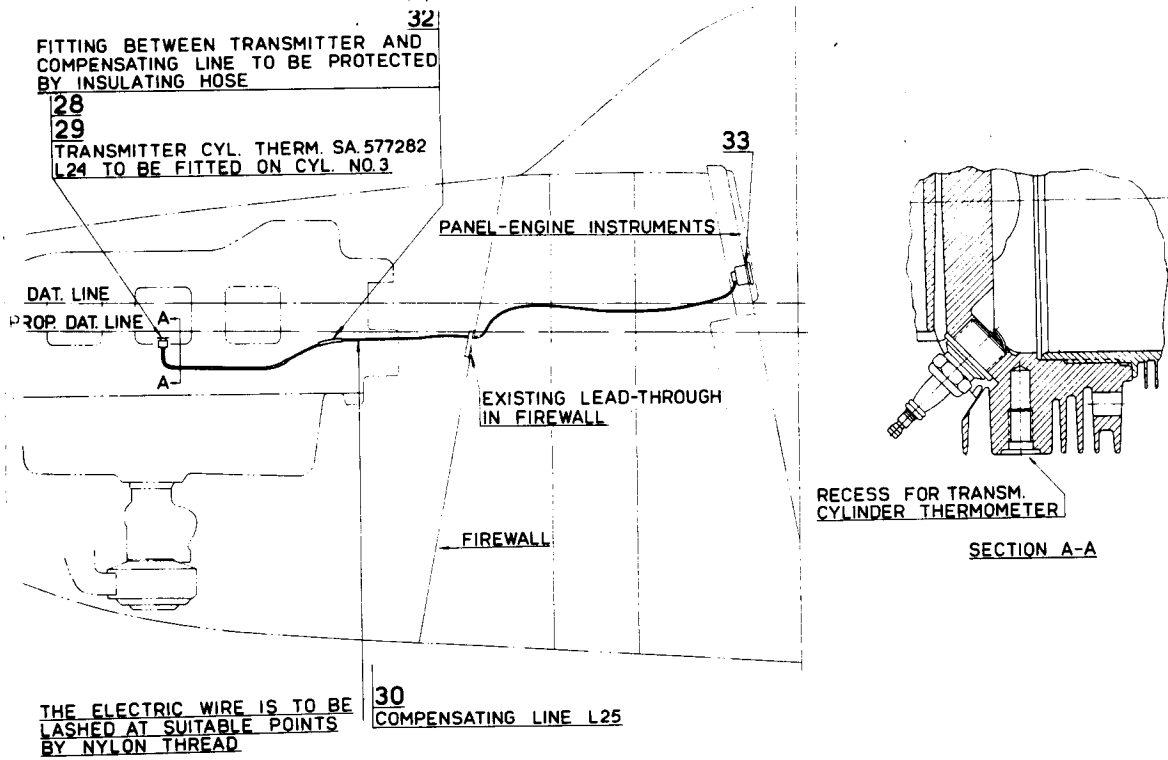

FIG 8
Ref. figure 8
Drill a hole \varnothing 57,5 mm on a suitable place on the centre panel for cylinder thermometer item 33, figure 8.
Fit adapter item 29 and transmitter item 28 to the engine in the existing hole in cylinder No. 3 according to section A-A figure 8.
Install and connect the electric cables according to figure 8 and 9.